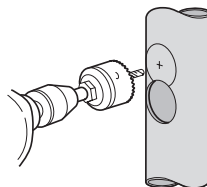

Fig. 17b Step 2
**Step 2** – Drill two overlapping holes of correct size (see table this page) at 45mm centres (Fig. 17b) for 135.4 and 135.6 and 30mm centres for 135.3